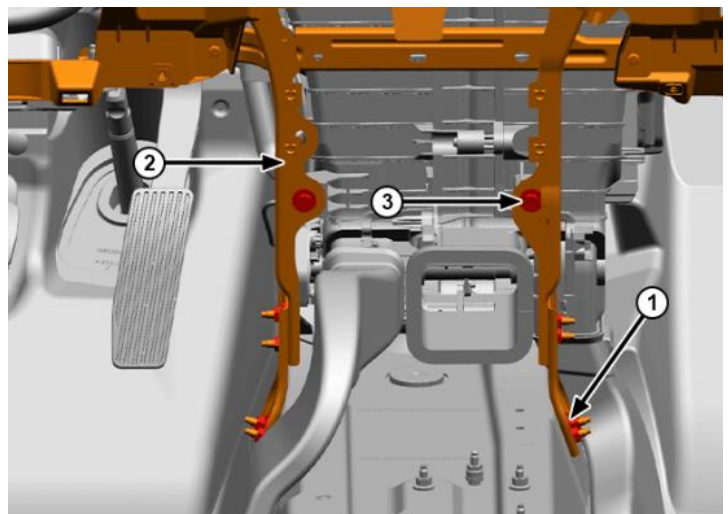

Figure 15 – CCB to Tunnel Bracket Nuts
32. Position the carpet aside and remove the tunnel bracket nuts (1) (Figure 15).
33. Remove the center instrument panel to HVAC bolts (3) (Figure 15).
9. Position the carpet aside and install the tunnel bracket nuts (1) and tighten to 9 N·m (80 in. lbs.) (Figure 15).
10. Install the center instrument panel to HVAC bolts (3) and tighten to 8 N·m (71 in. lbs.) (Figure 15).